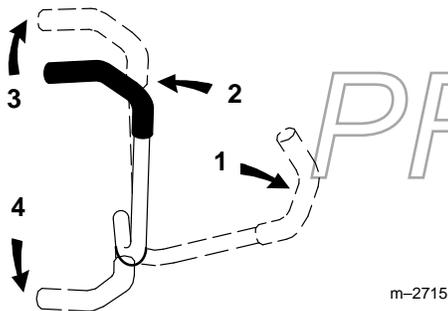

Figure 8
3. To go forward, slowly push the motion control levers forward (Fig. 8).
To go straight, apply equal pressure to both motion control levers (Fig. 8).
To turn, release pressure on the motion control lever toward the direction you want to turn (Fig. 8).
2. To go backward, slowly pull the motion control levers rearward (Fig. 8).